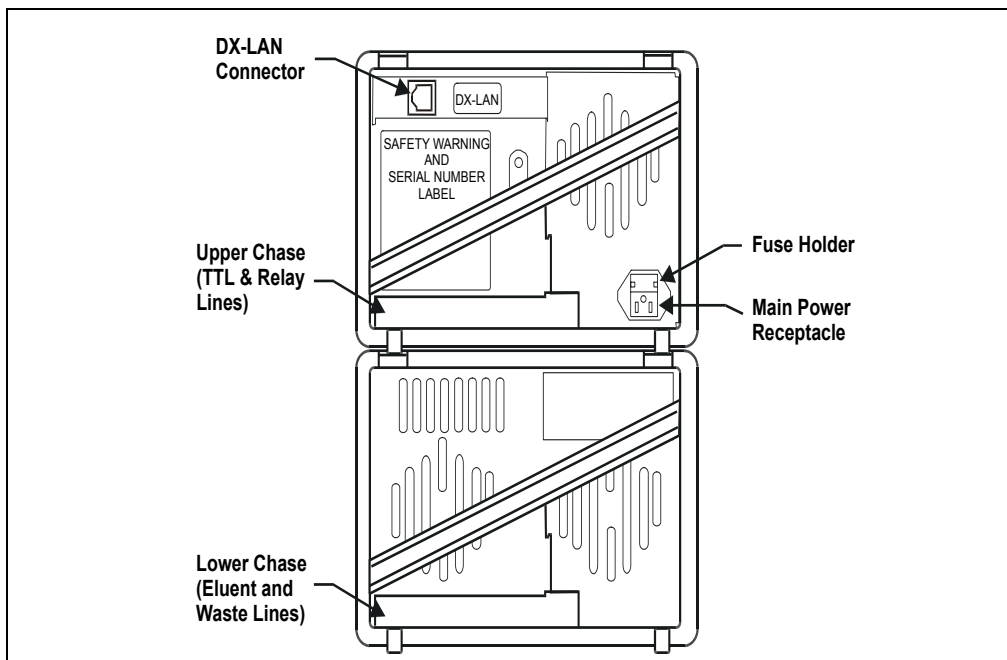

Figure B-1. GS50 Rear Panel Connections
To implement: Connect a modular power cord (IEC 320 C13) from the GS50 main power receptacle (see Figure B-1) to a grounded, single-phase power source. Use the GS50 power switch actuator to turn the pump on and off.
To implement: Locate one of the IEC jumper cables (P/N 960748) provided in the LC30 Ship Kit. Connect the jumper cable from the GS50 main power receptacle (see Figure B-1) to an IEC auxiliary receptacle on the LC30 rear panel. Leave the GS50 power switch on continuously and use the LC30 main power switch to turn the pump on and off.
1. Route the RJ-11 serial cable from the rear of the LC30 Chromatography Oven through the GS50 upper chase (see Figure B-1). Connect the cable to the **LC COMM** connector in slot 1 of the GS50 electronics chassis (see Figure B-2).
Route the electronics injection valve cable from the rear of the LC25 Chromatography Oven through the GS50 upper chase (see Figure B-1). Connect the cable to the **LC AIR** connector in slot 1 of the GS50 electronics chassis (see Figure B-2).
1. Route the leak sensor cable from the rear of the LC10 Chromatography Organizer or LC20 Chromatography Enclosure through the GS50 upper chase (see Figure B-1). Connect the cable to the **LC LEAK** connector in slot 1 of the GS50 electronics chassis (see Figure B-2).
3. Connect the other end of the cable into the 10BASE-T DX-LAN connector on the GS50 rear panel (see Figure B-1).